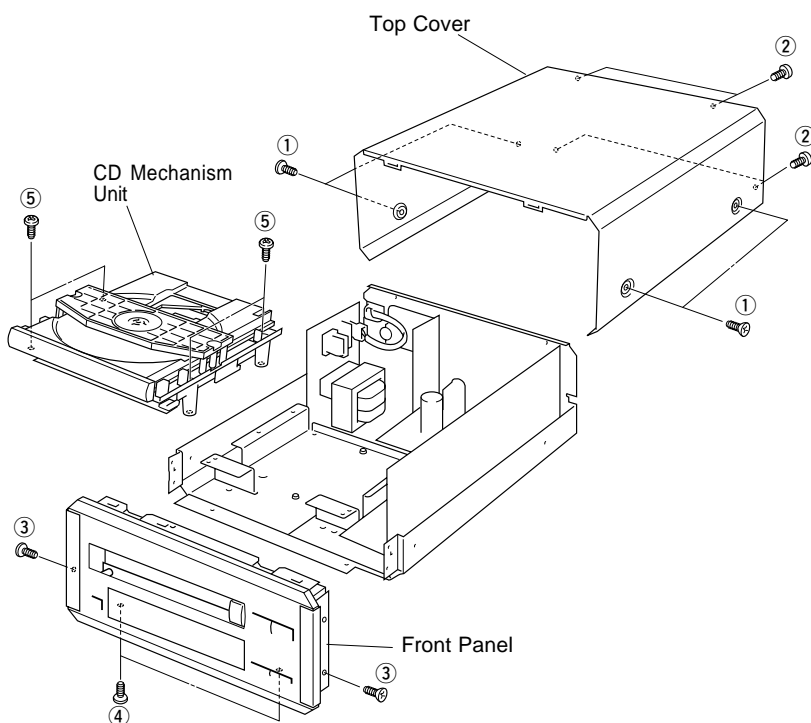

Fig. 1
- a. Remove 4 screws ( ① ) and 4 screws ( ② ) in Fig. 1.
- b. Remove 2 ( ③ ) screws and 2 screws ( ④ ) in Fig. 1.
- b. Remove 4 screws ( ⑤ ) in Fig. 1.